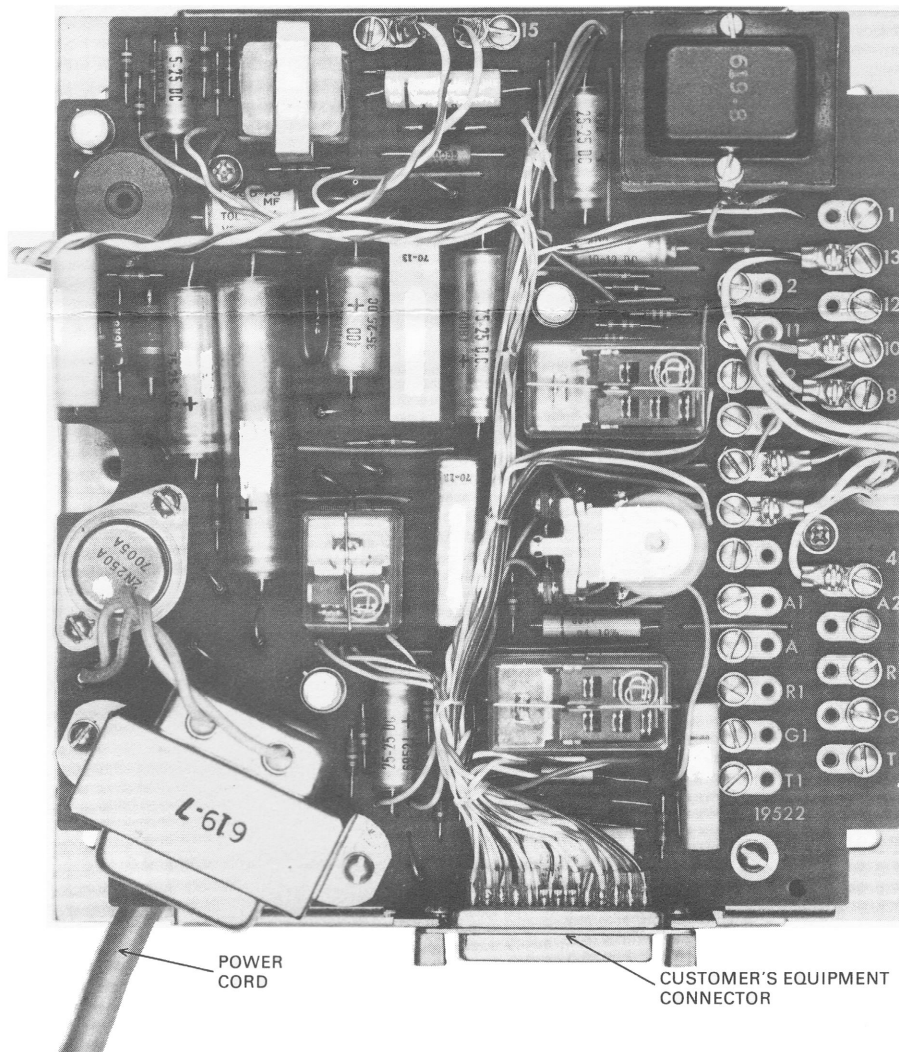

Fig. 2 — ERC-19522-1 Recorder Coupler, Cover Removed
2.02 Screw terminals for termination of the telephone line and telephone set mounting cord, or inside wiring cable, are located on the right side of the printed wiring board (Fig. 2). Entrance is provided at the bottom of the recorder coupler.
2.04 The power cord and customer equipment connector are located at the bottom of the recorder coupler (Fig. 2).